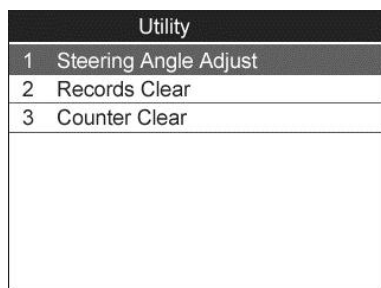

Figure 12-11
- 1) From the **Utility** function menu (Figure 12-11) use the **UP/DOWN** scroll button to select **Steering Angle Adjust** and press the **OK** button.
- 1) From the Utility function menu (Figure 12-11) use the **UP/DOWN** scroll button to select **Records Clear** and press the **OK** button.
- 1) From the Utility function menu (Figure 12-11) use the **UP/DOWN** scroll button to select **Counter Clear** and press the **OK** button.